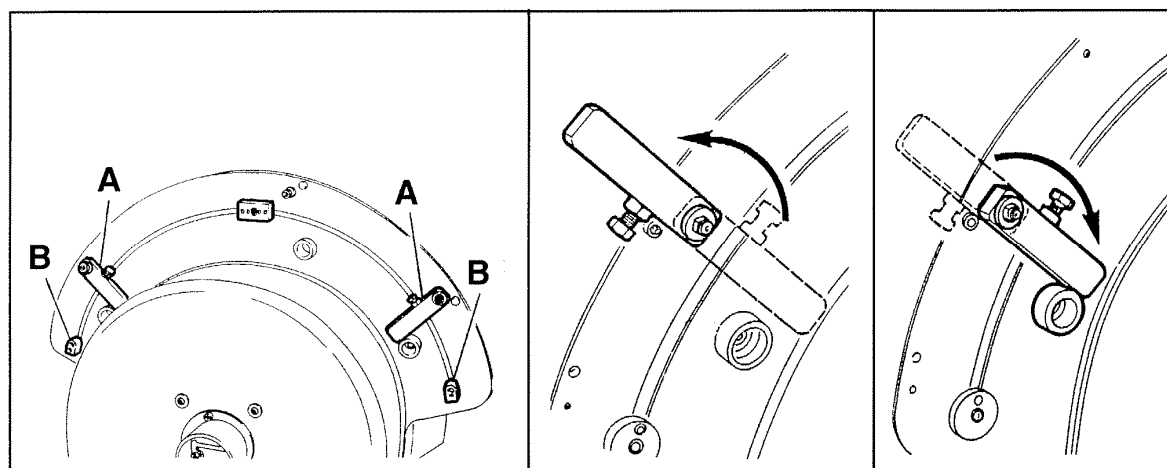

Fig. 08-03
8.1 COUPE A 20/45°D OU G (Fig. 08-03)